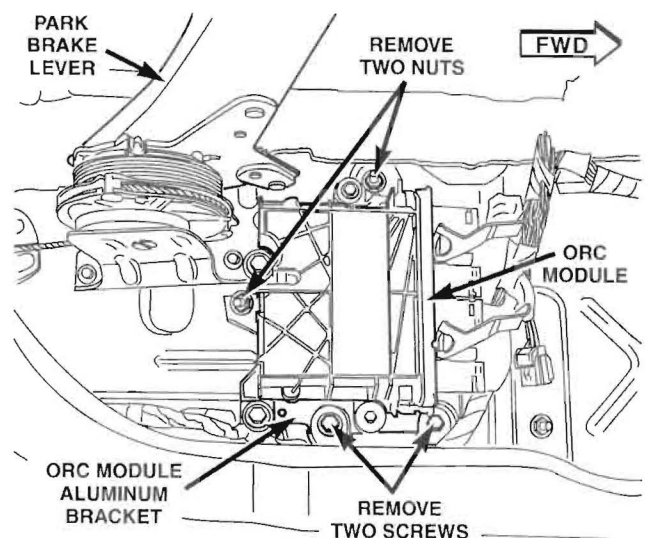

Figure 1
7. Remove the four fasteners shown in Figure 1 and carefully relocate the ORC module and aluminum bracket forward in car just far enough so that the park brake lever assembly can be removed.
16. Carefully place the ORC module into position and install module fasteners. Tighten ORC module fasteners to 95 in. lbs. (11 N·m) (Figure 1).